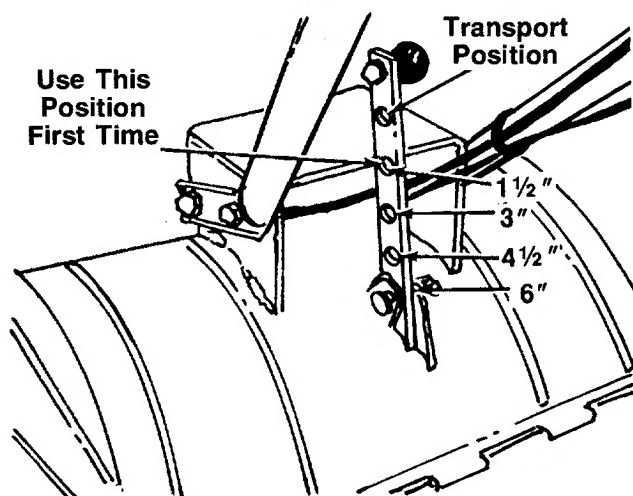
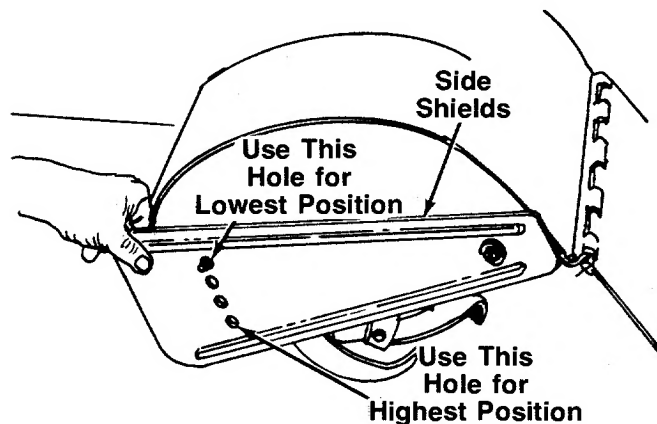

FIGURE 15.
FIGURE 16.
When operating the tiller for the first time, use the depth bar setting that gives 1½ inches of tilling depth (second hole from the top). Refer to figure 15. Use slow speed only.
Tilling depth is controlled by the depth bar which can be adjusted to five different settings. See figure 15. Adjust the side shields as shown in figure 16, as you adjust the depth bar. Be certain spark plug wire is disconnected and grounded against the engine.
1. When using the tiller for the first time, use the second adjustment hole from the top (1½" of tilling depth). See figure 15.
To adjust the depth bar, remove the clevis pin and hair-pin cotter. See figure 15. Move the depth bar to the desired setting.
To adjust the side shields, remove the hex nut and belleville washer from the front and loosen the rear nut. See figure 16. Pivot the side shield to the desired position. Replace hex nut and belleville washer. Tighten securely.